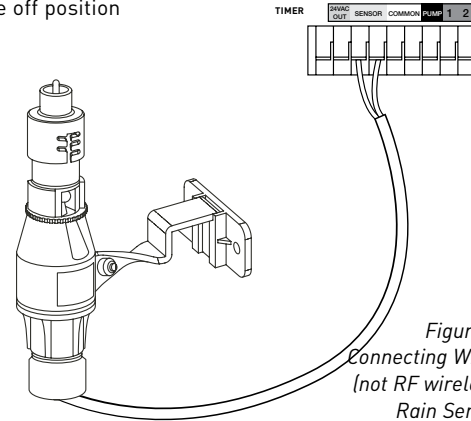

Figure 6:
- Place the sensor on/off switch to the "on" position to begin operation (see Figure 6)